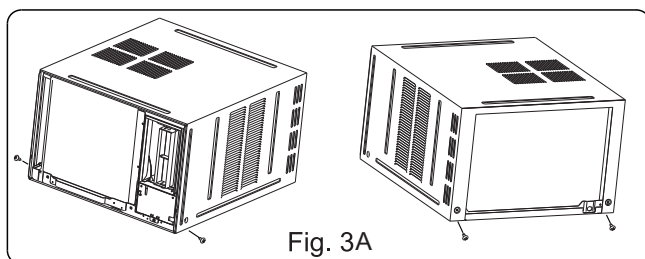

Fig. 3A
- Remove the four screws located on both sides and the back of the cabinet as shown in Fig.3A.
2. Fix the screws on the frame (See Fig.3A,3B,3C,3D).